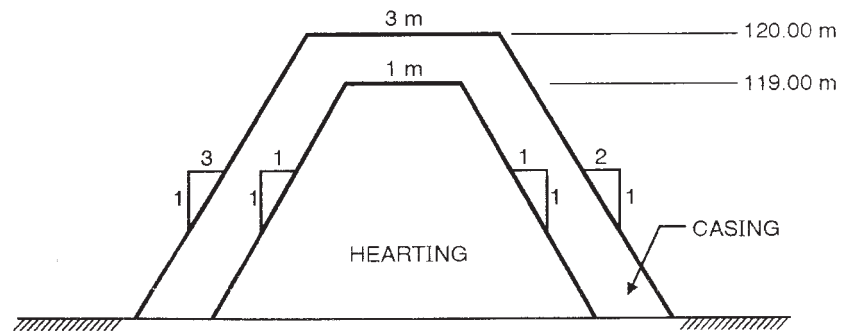

Fig. No. 2
- c) Calculate the quantities of earthwork in hearting and casing for earthen dam section given in Fig. No. 2. Use the data from table given below.